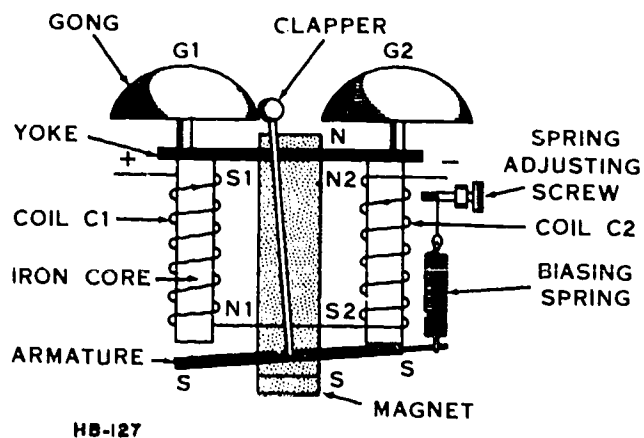

Figure 3-61. Illustrated ringer construction.
As an installer, you must be familiar with the way ringer bells operate so that you can make any necessary adjustments. To acquaint you better with ringer bells and ringer systems, let us briefly review ringer operation. Having completed Chapter 2 in Volume 2 of this course, you know the operating principles and can recognize many of the bell features shown in figure 3-61. The ringer has two coils of wire, each wound on an iron core with an armature pivoted above one end of a permanent magnet. The creation of a magnetic field, which causes the armature to move from one pole to the other, operates the ringer. When an electric current is passed through the ringer windings, one end of the armature is pulled by the current (if the polarity is right) in the same direction as by the permanent magnet. Since unlike poles attract and like poles repel, the left end of the armature in figure 3-61 is attracted to coil C1 while the other end of the armature is repelled by C2. As a result, the clapper strikes G2. On the other half of the alternating current (AC) cycle,
Note in figure 3-61 that the ringer has a biasing spring to regulate the movement of the armature. Although all biasing springs are not mounted in identical positions, they have the same purpose. When AC ringing current is used, the biasing spring prevents tapping of the bell when any current except ringing current flows through the set. By adjusting the tension of the biasing spring, you can stop such tapping and can also slightly change the sound of the bell. To repeat, the primary purpose of the biasing spring is to prevent bell tapping. While we are still thinking of ringers, it should be noted that some modern ringers use only one coil with two windings. The operating principles, however, are basically the same as those described in Volume 2 of this course.
5. Identify a necessary component for the circuit of text figure 3-61 that is not now identified.
10. Tell the connection principle for the two coils of text figure 3-61.